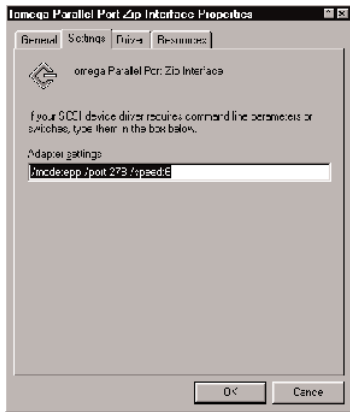

Figure 6-1. Editing the Zip drive's command-line switches.
3. For maximum speed and performance, we recommend that, after you run the Parallel Port Accelerator, you double-click on this sequence of elements: "My Computer," "Control Panels," "System," "Device Manager," "SCSI Controllers." Click on "Iomega Parallel Port Zip Interface," then on "Properties," then on the "Settings" tab. A screen like the one shown in Figure 6-1 on the next page should appear.